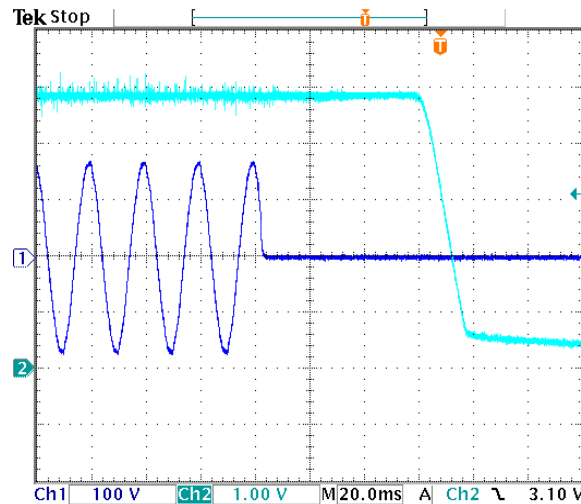

Figure 4. Typical AC turn-off with full load @ 120 V
3. AC-OK – The AC-OK signal will be high when a normal sinusoidal AC input exceeds 68 Vac. The output is driven by the 5 V standby and includes a 20 kΩ pull-down. Care should be taken not to short this output to Return and the input should not be pulled above the 5V standby output. (Ref. figure 2, figure 3, figure4, table 2)